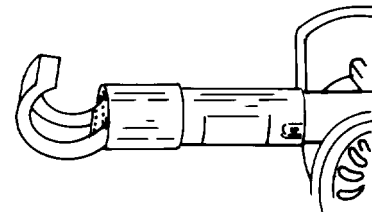

Figure 21. TG-23 Reflector
d. TG-23. Used for heating solder termination sleeves and shrinking medium-diameter tubing and boots. Used for boots up to 1 3/4 inches in diameter and has to be ordered separately (Figure 21).